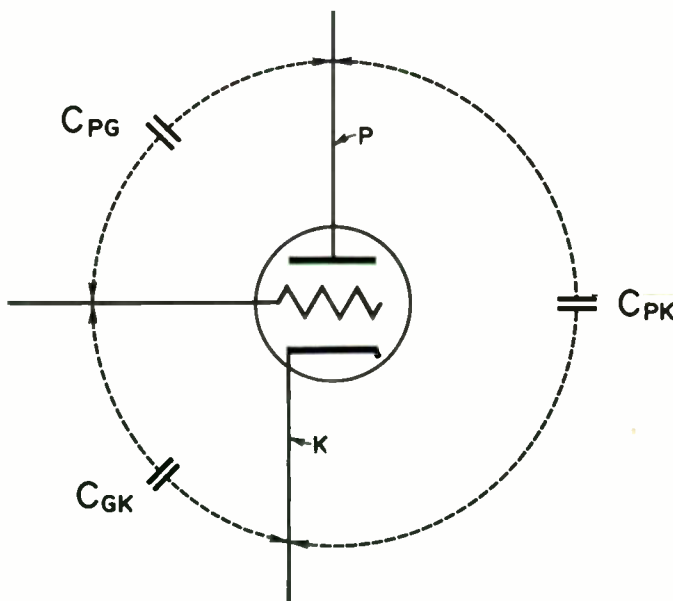

Figure 28 — Representation of interelectrode capacitance in a triode.
**Interelectrode Capacitance** Capacitance exists between any two pieces of metal separated by a dielectric. The amount of capacitance depends upon the size of the metal pieces, the distance between them, and the type of dielectric. The electrodes of a vacuum tube have a similar characteristic known as the interelectrode capacitance, illustrated schematically in the triode (Fig. 28). The direct capacitances that exist in a triode are